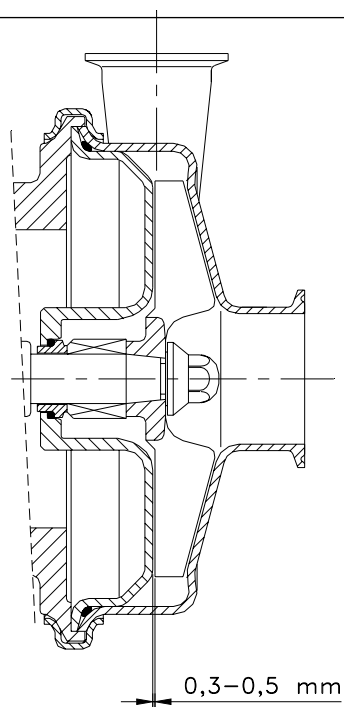

Figure 8.1: Clearance between impeller and pump cover.
- Slide the impeller (02) over the shaft up to the rotating part of the mechanical seal (08).
- Place an open-jaw wrench on the shaft flats (05) to keep it from rotating. Slide the impeller washer (35) into place and tighten the nut (45).
- Check that the clearance between the impeller and the cover (03) remains at 0.3 - 0,5 mm., so that the working pressure of the seal would be the correct one; see Figure 8.1.